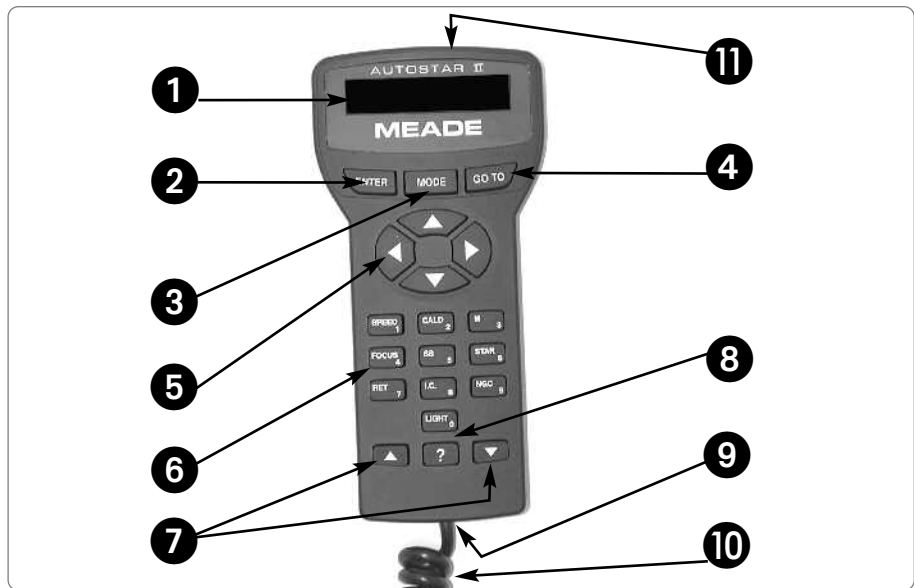

Fig. 2: The Autostar II Handbox.
Note: If MODE is pressed and held for two seconds or more, information about the telescope's status displays. When the status displays, press the Scroll keys (7, Fig. 2) to display the following information:
Additionally, use the Arrow keys to move the cursor across the display: Use the Right or Left Arrow key (5, Fig. 2) to move the cursor from one number to the next in the display.
- 1 **SPEED:** Changes the slew speeds. To operate, press Speed and then a Number key (1 is the slowest speed, 9 is highest speed).
- 9 Coil Cord Port:** Plug one end of the Autostar II coil cord (**10, Fig. 2**) into this port located at the bottom of the Autostar II handbox.